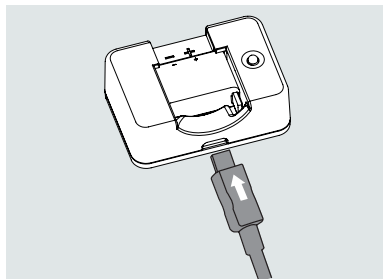

Figure 10
1. Insert the small end of the cable into the pump battery charger as shown in Figure 10. The large end of the cable should be inserted into the PDA adapter.